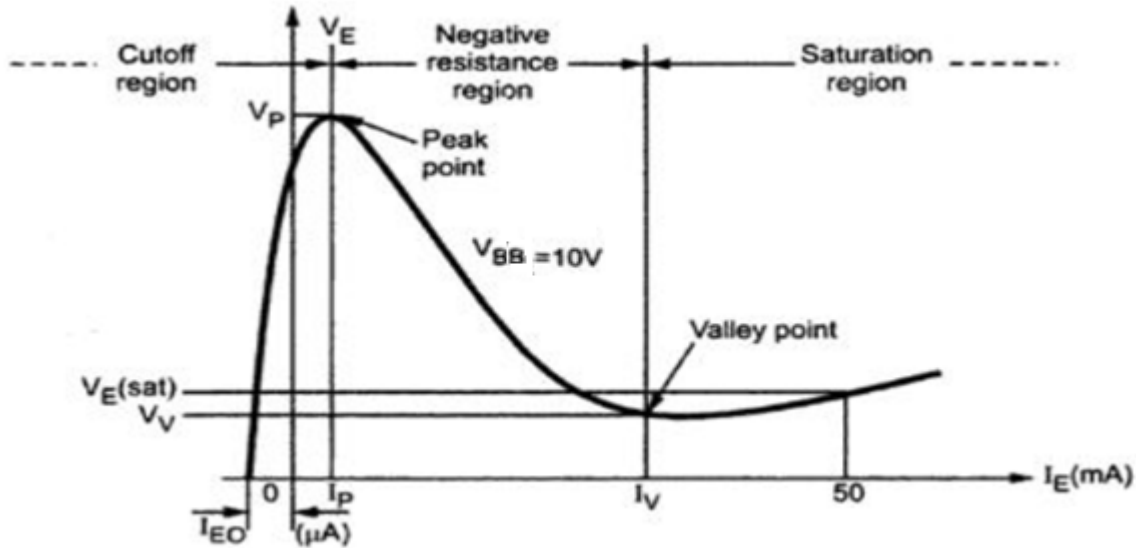

Fig. 5.33 Characteristics of UJT
- For a particular fixed value of V_{BB} such characteristics is shown in the Fig. 5.33.